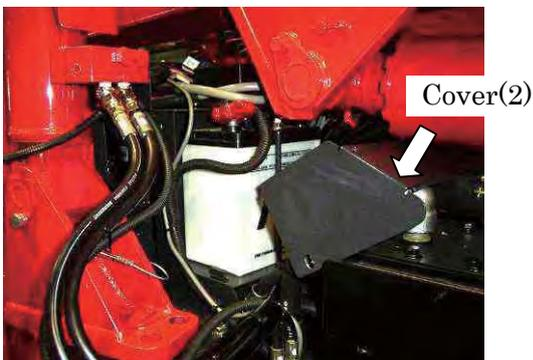

Fig. 8 Removing position of cover (2)
Put the cover (2) at the place indicated in the Fig. 8 when it is hard to be removed.